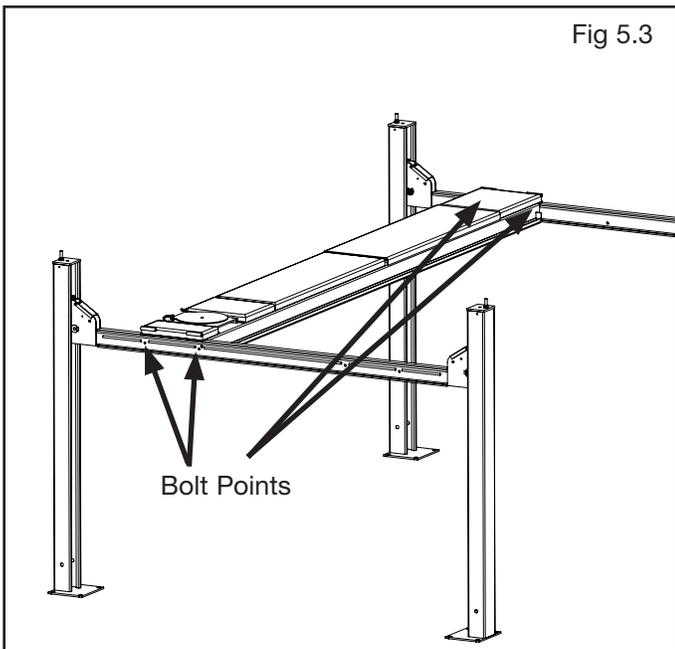

Fig 5.3
4. Position the POWER SIDE RAMP on top of the cross-tubes with the UTILITY RAIL towards the center. Align the holes in the ramp with the holes on the cross-tubes and bolt together using four M12 x 1.75 hex bolts, nuts, and washers. (See Fig. 5.3)